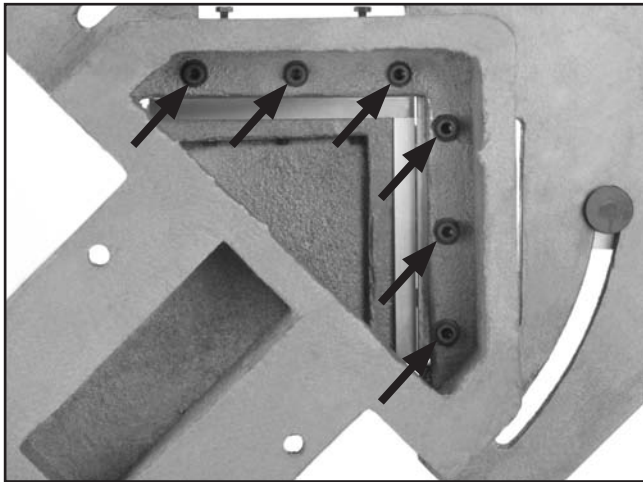

Figure 15. Loosening bottom blades.
1. Loosen the six cap screws located inside the machine base on the underside of the bottom blades (**Figure 15**).
7. Tighten all six cap screws located inside the machine base on the underside of the bottom blades (**Figure 15**).